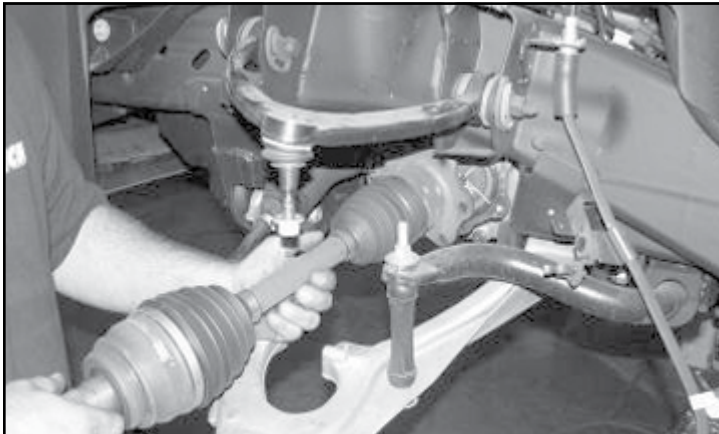

FIGURE 7 - STEP 7
7. Disconnect and remove CV axles from differential housing and the sway bar endlinks and save. Discarding **ONLY** the CV axle hardware. **SEE FIGURE 7**